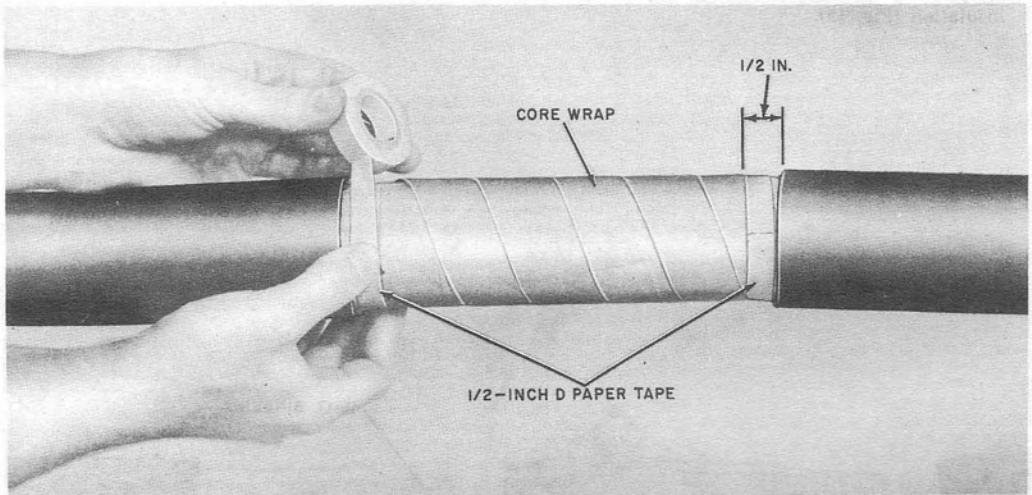
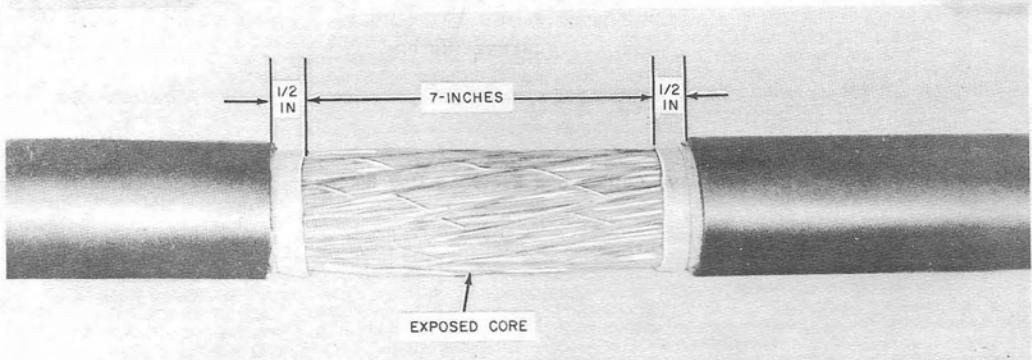

Fig. 17—Apply D Paper Tape
Fig. 18—Removed Cord Wrap
- (e) Wrap several layers of 1/2-inch D paper tape over each end of the core wrap as shown in Fig. 17. Then, remove the core wrap between the D paper tape (Fig. 18).